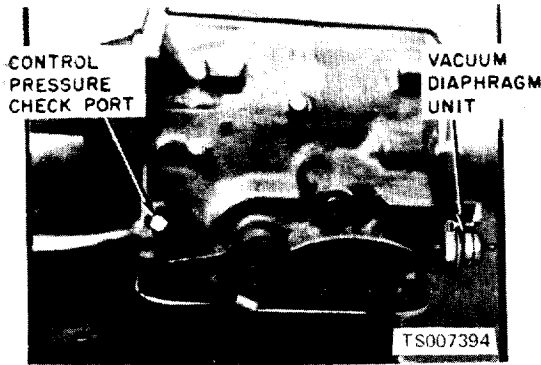

Figure 7-5. Control Pressure Port.
b. With vacuum readings and engine adjustments verified, connect a pressure gage of 0-250 PSI range to the control pressure port shown in figure 7-5, and proceed with test as follows: